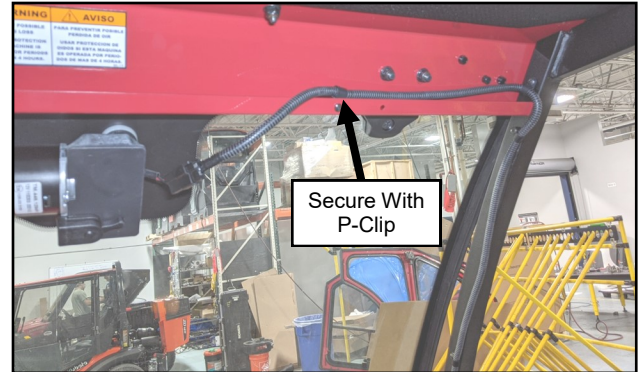

Fig. 15.1 (Attach Main Harness To Wiper Connector)
- 15.1** Attach the main power wire harness to the windshield wiper connector, and secure to the windshield support using a P-clip and hardware. Make sure there is enough slack to fully open the windshield. See Figure 15.1.